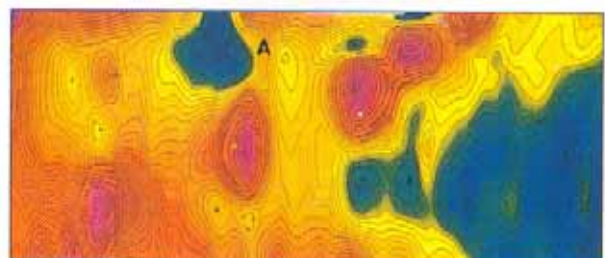

Figure 3. TOTAL MAGNETIC FIELD CONTOURS (nT)
- A **magnetic low** (40 nT) is coincident with the Point Lake kimberlite (figure 3).